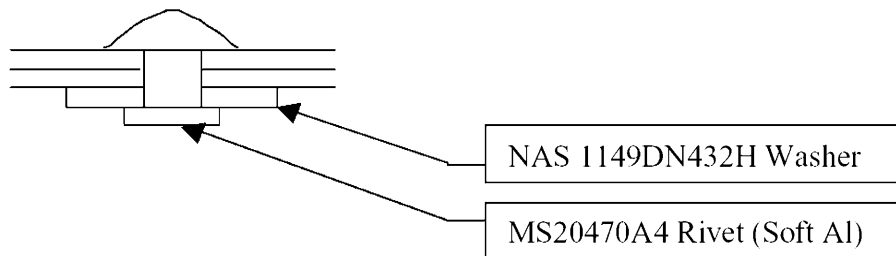

Figure 4-12a. Metal / Wire Stitching Repair
4-64A. Metal Wire Stitching Repair. (See Figure 4-12a.)
1. MS20615M4 Rivet (Monel) and NAS1149CN432R Washer (See Figure 4-12a.)
1. MS20470A4 Rivet and NAS1149DN432H Washer (See Figure 4-12a.)